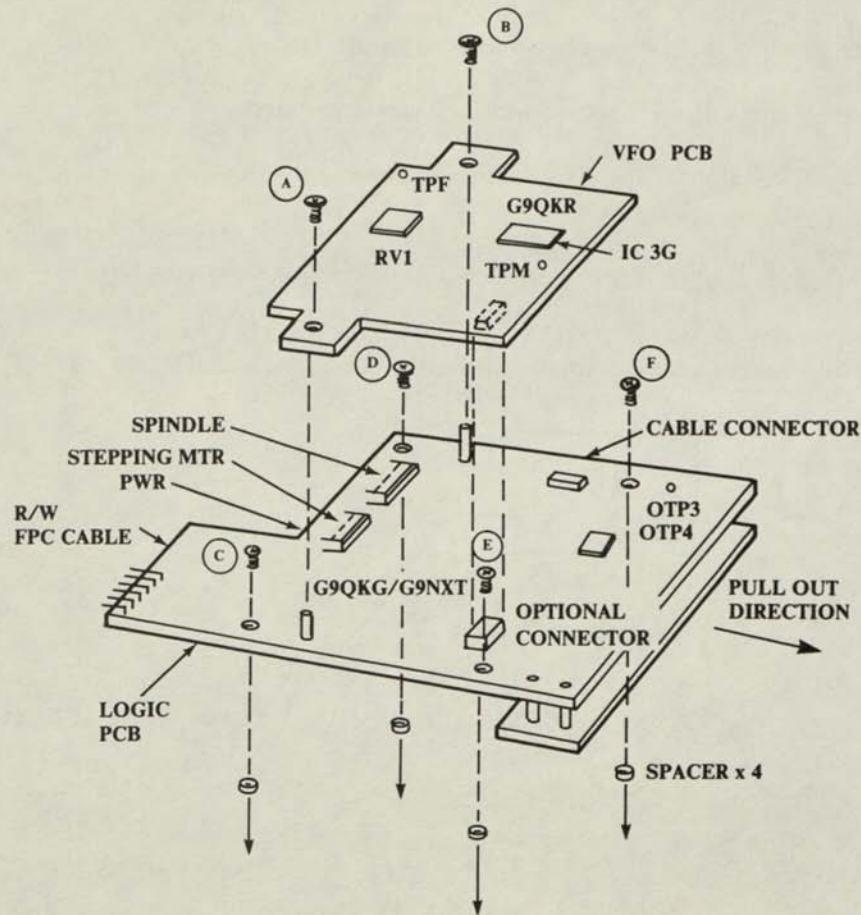

Figure 3-6 PCB Disassembly/Assembly (Disk Drive)
Figure 3-6 illustrates the recommended disassembly/assembly steps to remove or replace the VFO and/or logic PCB; either independently, or as a package. It assumes that ac power is disconnected, and that the disk drive assembly is removed from the DKU.
1. G9QKQ/G9NXT PCB Balance (speed) adjustment (see Figure 3-6).
2. G9QKR VFO PCB Adjustment (see Figure 3-6).